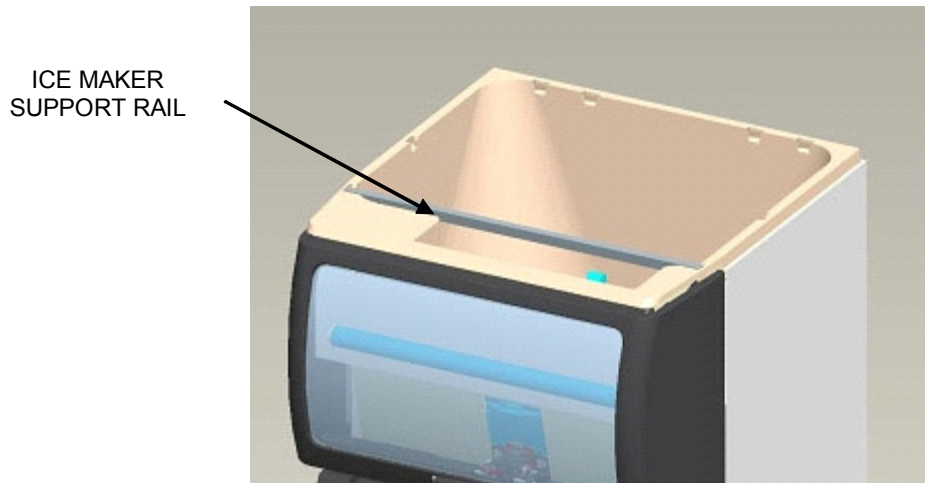

Figure 2
2. Place ice maker support rail into the front set of pockets in the ice bin as shown in Figure 2.